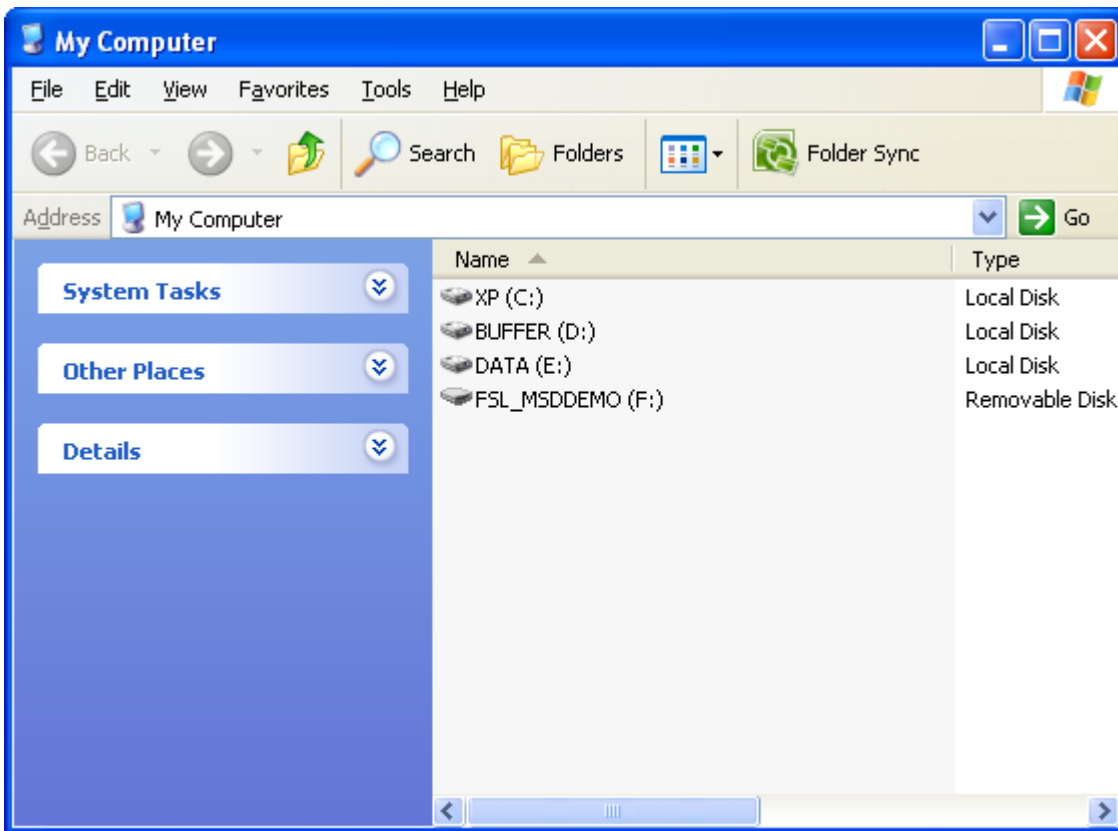

Figure K-8. FSL_MSDDEMO disk
3. After that, MSD device is enumerated successfully. The FSL_MSDDEMO Removable disk can be seen at My Computer window as Figure K-8: